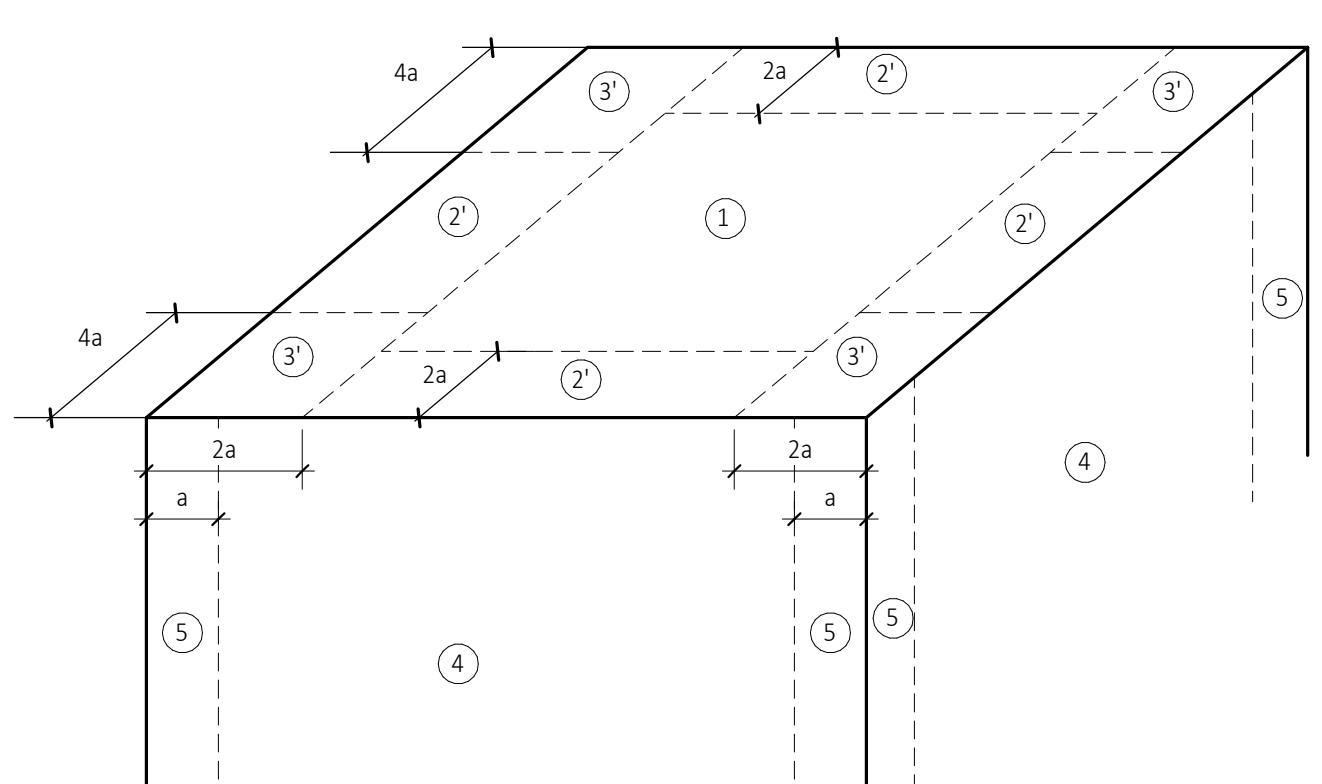

Figure 1. C&amp;C Zone Designations
C. See Figure 1 for C&amp;C Zone Designations